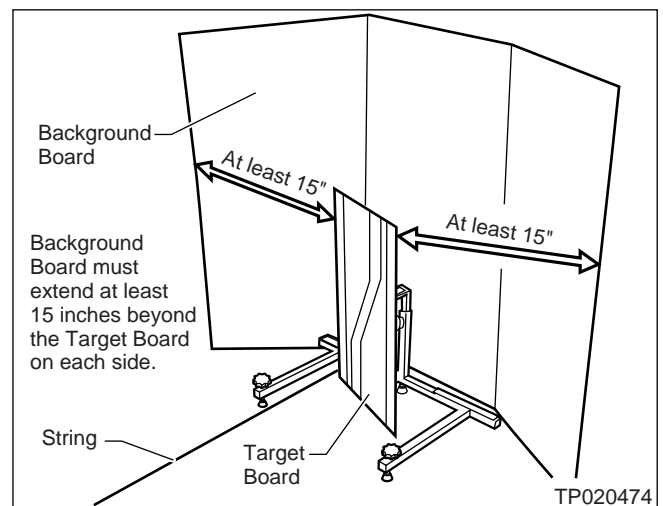

Figure 13
14. Set up the Background Board behind the Target Board (see Figure 13).